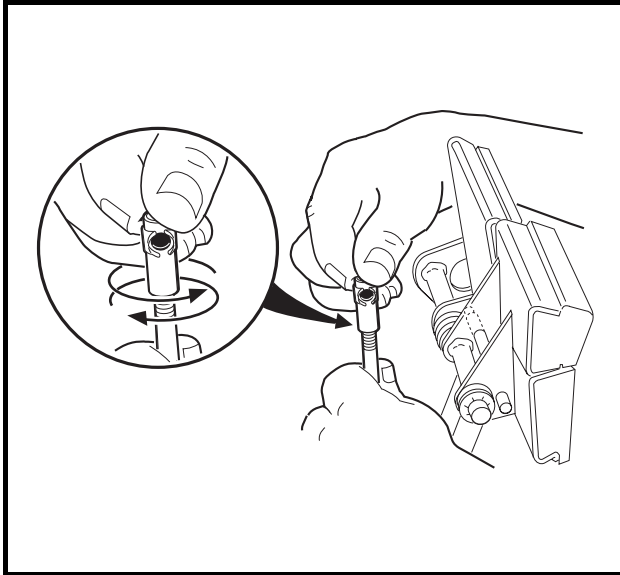

Figure 5-27 Brake Rod Adjustment
- 4.6. If ratchet/pawl engagement must be adjusted, disconnect the ball joint at the top of the brake rod and rotate the ball joint sleeve clockwise to increase engagement or counterclockwise to decrease engagement. Reconnect ball joint (**Figure 5-27, Page 5-19**).